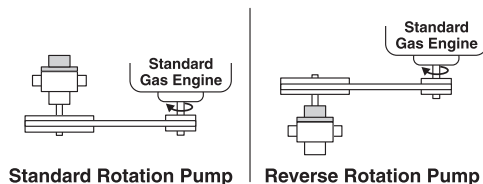

Figure 3
1. Install pulley or bushing/sheave combination onto pump and motor shaft. Mount pump next to the motor making sure pulleys are lined up properly. (See Figure 3 for proper pump and motor orientation.)